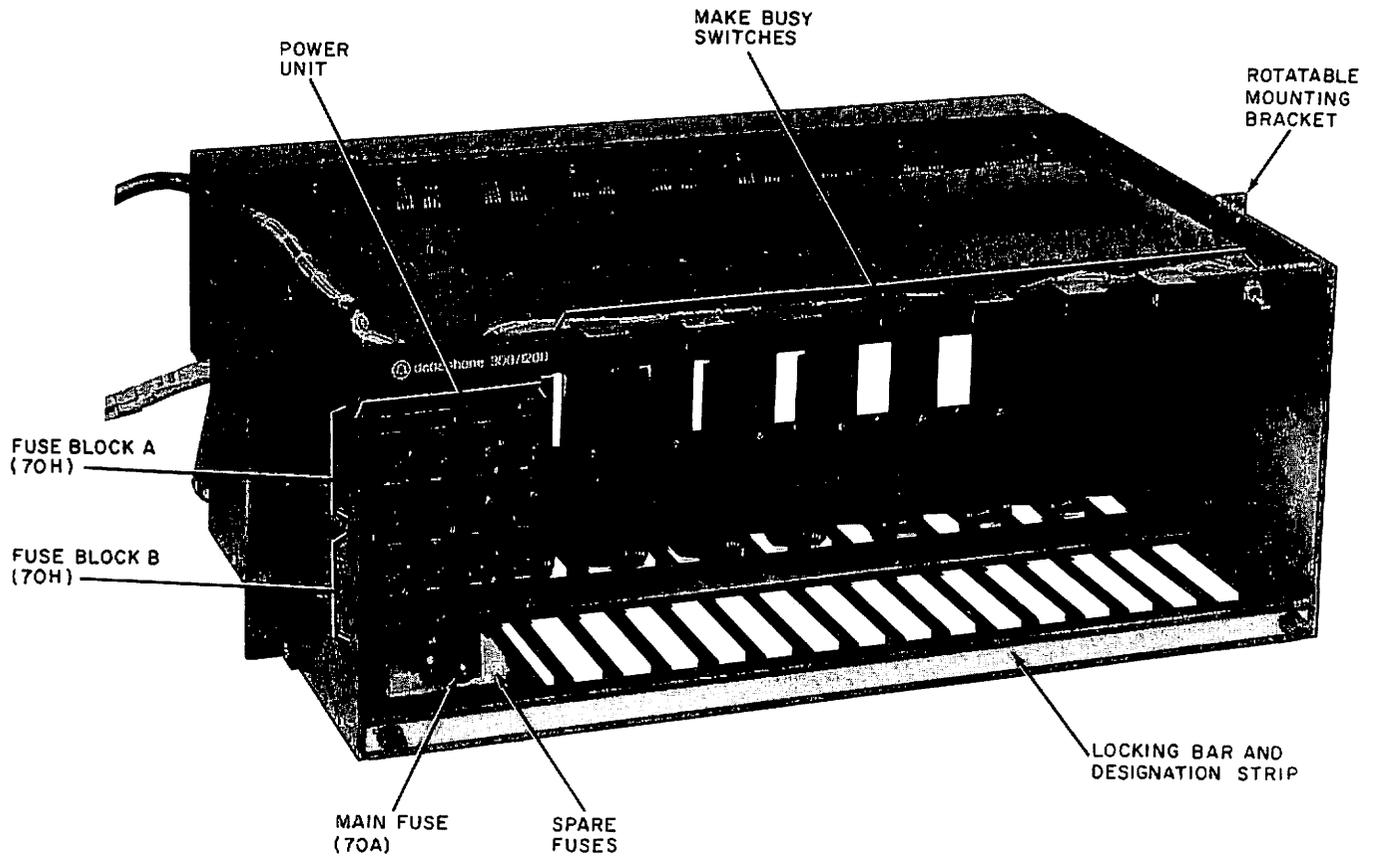

Fig. 2—40A2 Data Mounting (Shown for 19-Inch Mounting)
**2.05** The 40A2 data mounting (Fig. 2) replaces the 40A1 data mounting to accommodate data set 212A in addition to the other data sets and data auxiliary set listed in 2.03. It is the same as the 40A1 except for the following: